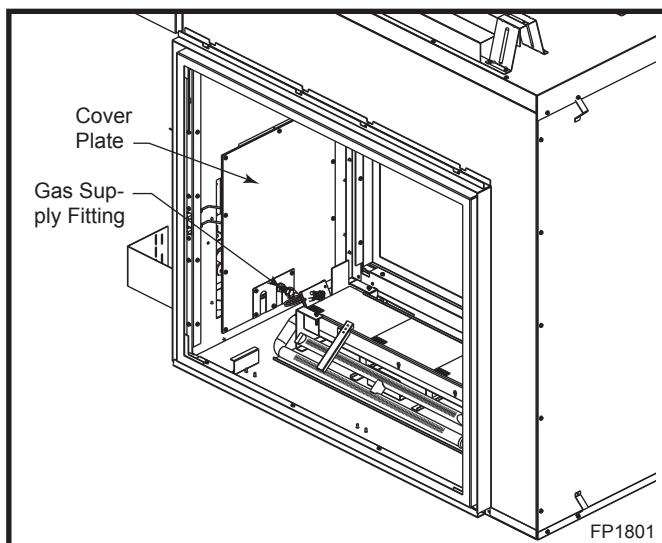

Fig. 7 Disconnect gas supply fitting and remove 13 screws securing the cover plate.
5. Using a back-up wrench, disconnect the gas supply fitting. (Fig. 7)